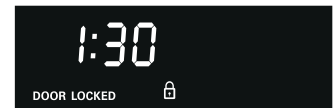

Figure 1
1. Press and hold **Lock** for three seconds (Fig. 1).